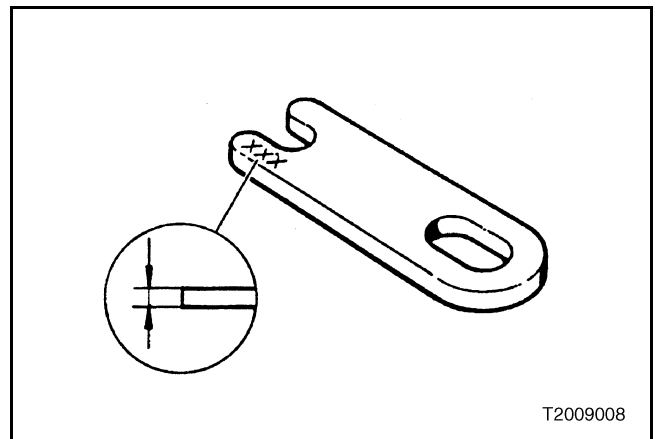

Figure 510 — Engine Compression Brake Adjustment Shim
- If clearance is not within specification, adjust the clearance as follows, using shims (Figure 510) placed on top of the valve yoke (bridge).